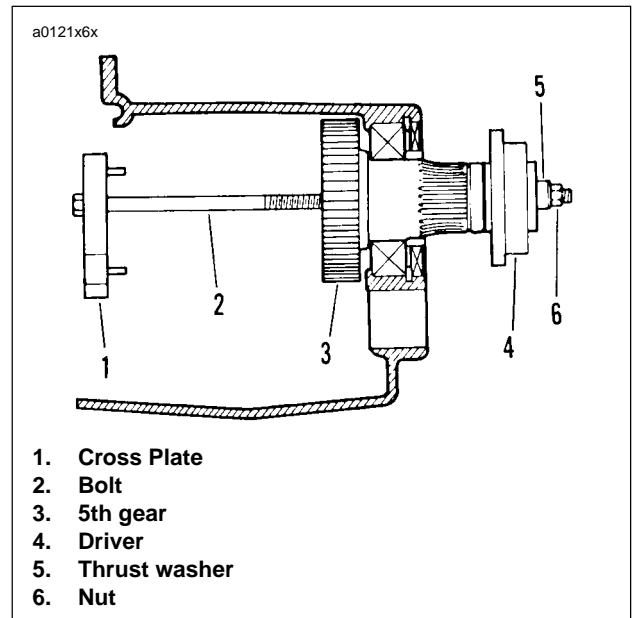

Figure 6-47. Removing Main Drive Gear
6. See Figure 6-47. Insert bolt (2) through crossplate (1) and 5th gear (3).